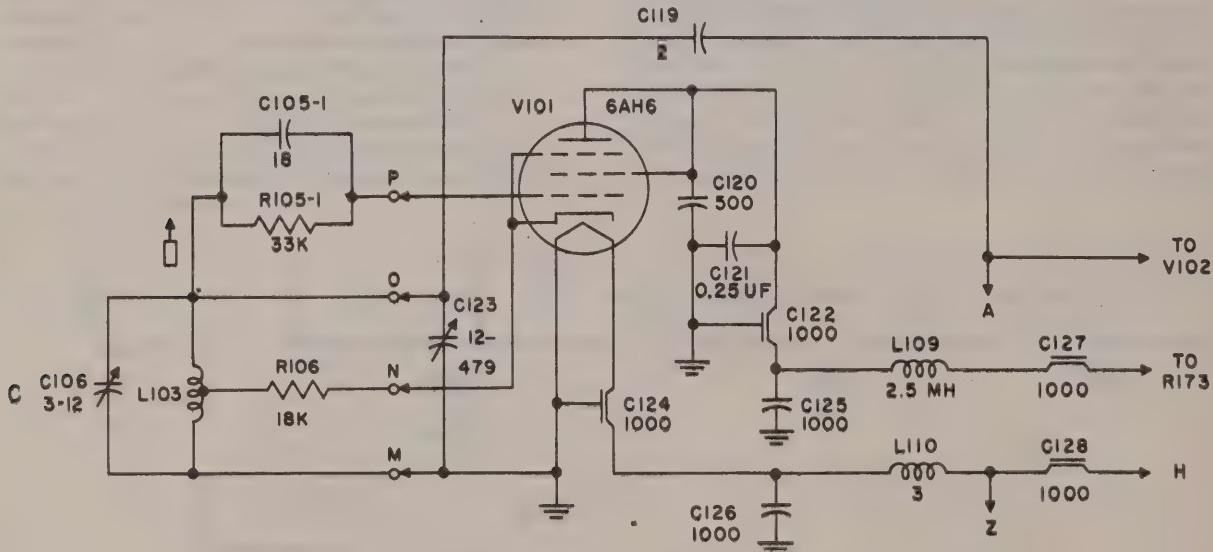

Figure 2-2. Simplified Schematic Diagram of the RF Oscillator
**b. CARRIER OSCILLATOR (See figure 2-2).**